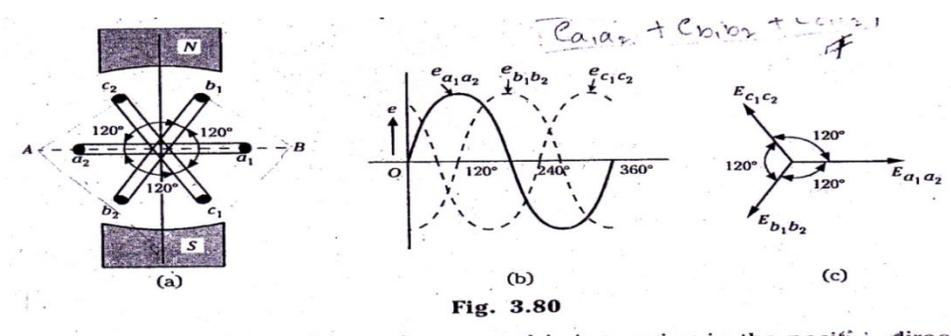

Fig. 3.80
Consider three electrical coils  $a_1a_2, b_1b_2$  and  $c_1c_2$  mounted on the same axis but displaced from each other by  $120^\circ$  electrical. Let the three coils be rotated in an anticlockwise direction in a bipolar magnetic field with an angular velocity of  $\omega$  radians/sec, as shown in Fig. 3.80. Here,  $a_1, b_1$  and  $c_1$  are the start terminals and  $a_2, b_2$  and  $c_2$  are the end terminals of the coils.
When the coil  $a_1a_2$  is in the position AB shown in Fig. 3.80, the magnitude and direction of the e.m.f. s induced in the various coils is as under:
- a) Emf. induced in coil  $a_1a_2$  is zero and is increasing in the positive direction. This is indicated by  $e_{a_1a_2}$  wave in Fig. 3.80 (b).
**Vector Diagram:** The r.m.s. values of the three phase voltage are shown vectorially in Fig. 3.80(c).
The order in which the voltages in the phases reach their maximum positive values is called the phase sequence. For example, in Fig. 3.80(a), the three coils  $a_1a_2$ ,  $b_1b_2$  and  $c_1c_2$  are rotating in anticlockwise direction in the magnetic field. The coil  $a_1a_2$  is  $120^\circ$  electrical ahead of coil  $b_1b_2$  and  $240^\circ$  electrical ahead of coil  $c_1c_2$ . Therefore, e.m.f. in coil  $a_1a_2$  leads the e.m.f. in coil  $b_1b_2$  by  $120^\circ$  and that in coil  $c_1c_2$  by  $240^\circ$ . It is evident from Fig. 3.80(b) that  $e_{a_1a_2}$  attains maximum positive first, then  $e_{b_1b_2}$  and  $e_{c_1c_2}$ . In other words, the order in which the e.m.f. s in the three phases  $a_1a_2$ ,  $b_1b_2$  and  $c_1c_2$  attain their maximum positive values is a,b,c. Hence, the phase sequence is a,b,c.